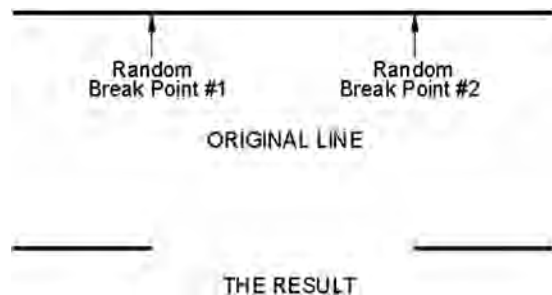

FIGURE 15.10
- Step 3.** Pick another nearby point on the line, and a section between these two points is removed (Figure 15.10). Note that, in AutoCAD 2015, you can now preview the result of the break command as you execute it, similar to many other modify commands.